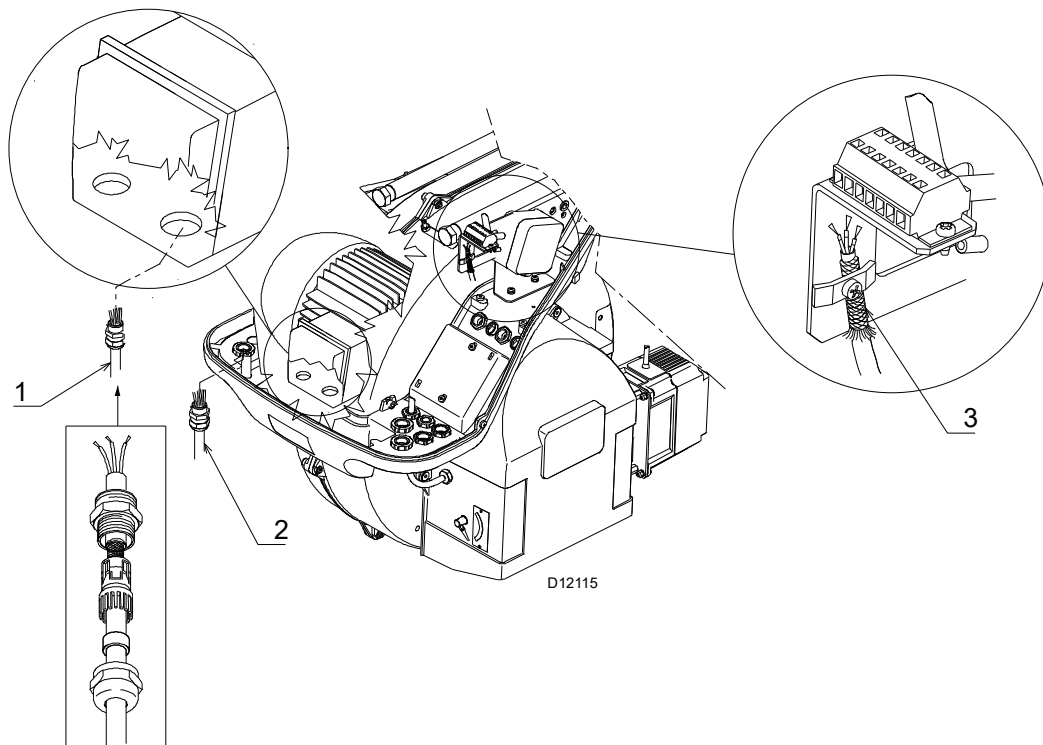

Fig. 26
It is important to shield the motor cable 1) as indicated in Fig. 26.
Key (Fig. 26)
The connection from the inverter to the REC 37.400A2, electronic cam, must be performed as indicated in 3)(Fig. 26).
- Bleed the air from the piping of the gas train, connecting a plastic tube to the pressure test point 1)(Fig. 26) of the minimum gas pressure switch. Take the vent tube outside the building so you can notice the smell of gas.